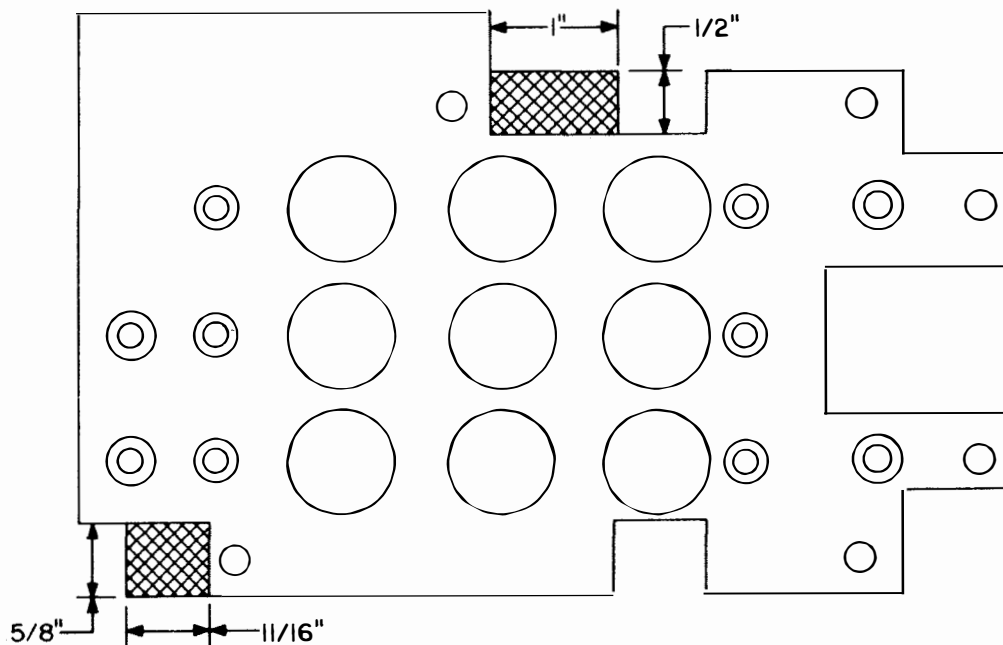

Figure 1. +5.75V SCR Heat Sink Mounting Plate.
1. Remove nine (9) screws from the lower left perforated screen and sixteen (16) screws from the upper left perforated screen and set screens and mounting hardware aside.
2. Remove (12) screws securing the rear perforated screen to the power supply frame and set screen and mounting hardware aside.
3. Remove five (5) screws securing the cable channel bracket to the power supply frame and set cable bracket and mounting hardware aside.
4. Lay the power supply on its right side and remove eight (8) screws securing the front panel to the power supply frame. Exercise extreme caution to protect wiring and components, tip front panel forward away from the power supply frame.
5. Remove four (4) screws securing bottom perforated screen and set screen and mounting hardware aside.
6. Remove four (4) screws securing heat sink assembly HS 2(A6) to power supply frame.
7. In the lower front corner of the left side, remove ten (10) screws which secure heat sink assembly HS 4(A10) and SCR bracket assembly HS 5(A7) to their associated mounting plate depicted in figure 1. (The screws are removed from the countersunk holes indicated in the figure.)
8. Remove (6) screws and associated nuts and washers which secure the foregoing mounting plate to the power supply.
9. Remove six (6) screws securing transformer T1.
10. The mounting plate depicted in figure 1 can now be removed from the power supply by carefully pushing the plate toward the rear of the power supply while rotating it slightly clockwise.
11. Cut away the material from the mounting plate indicated by the cross-hatched areas in figure 1. Remove burrs from the edges of the reworked area.